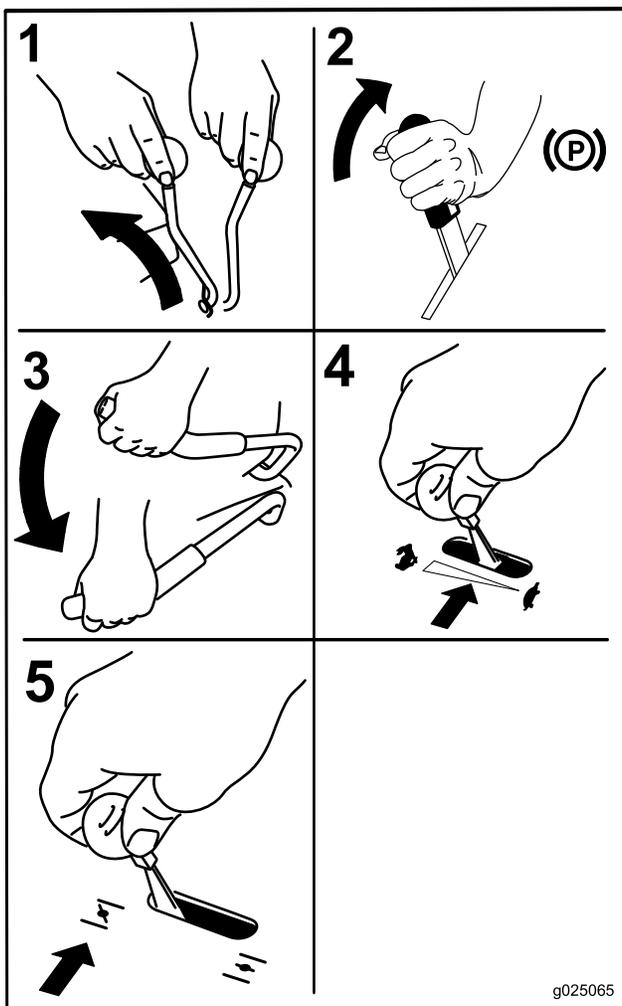

Figure 15
3. Move the PTO engagement lever to the OFF position (Figure 15).